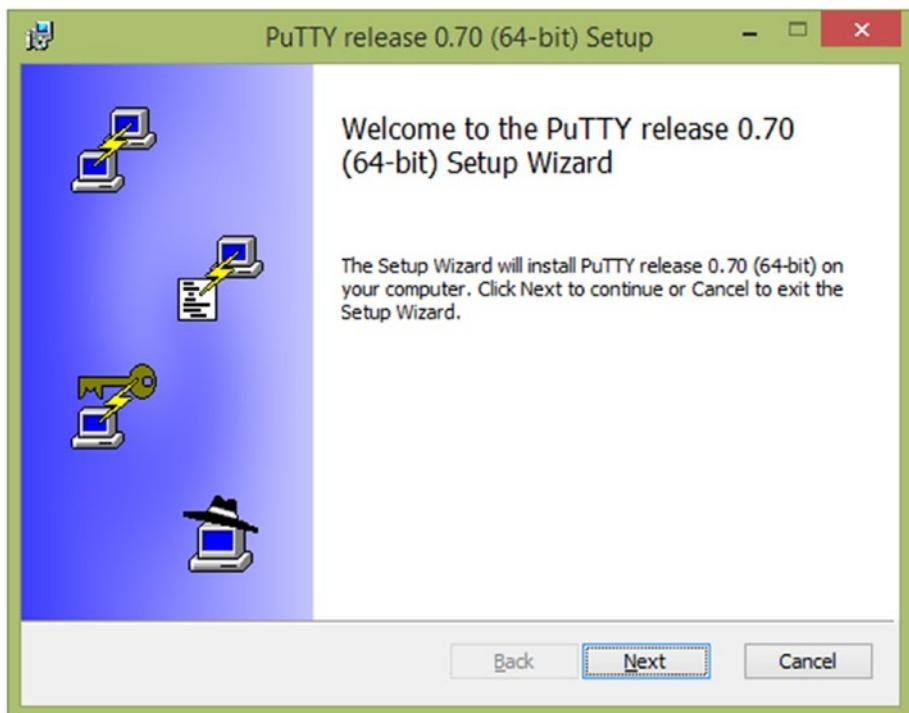

Figure 3-30. PuTTY installation wizard welcome page for 64-bit Windows OS
- Once downloaded, run the installer by double-clicking it. The setup wizard will open. Click the Next button to continue (Figure 3-30).